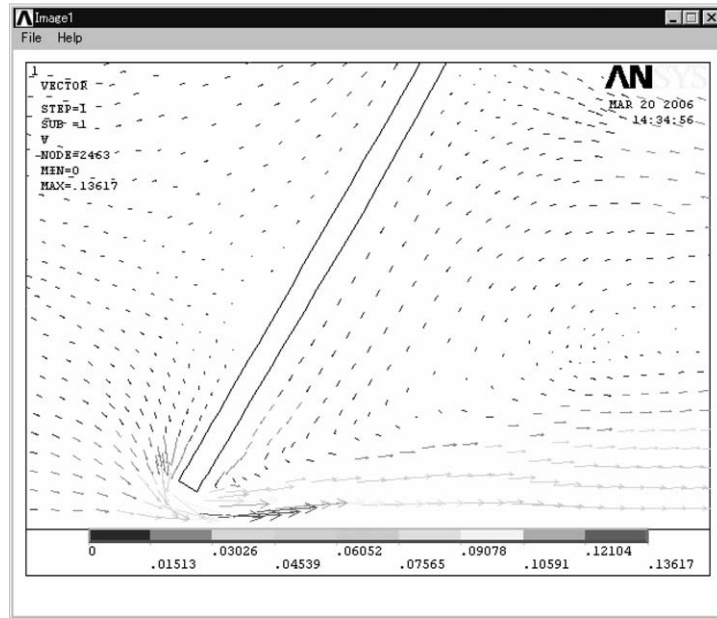
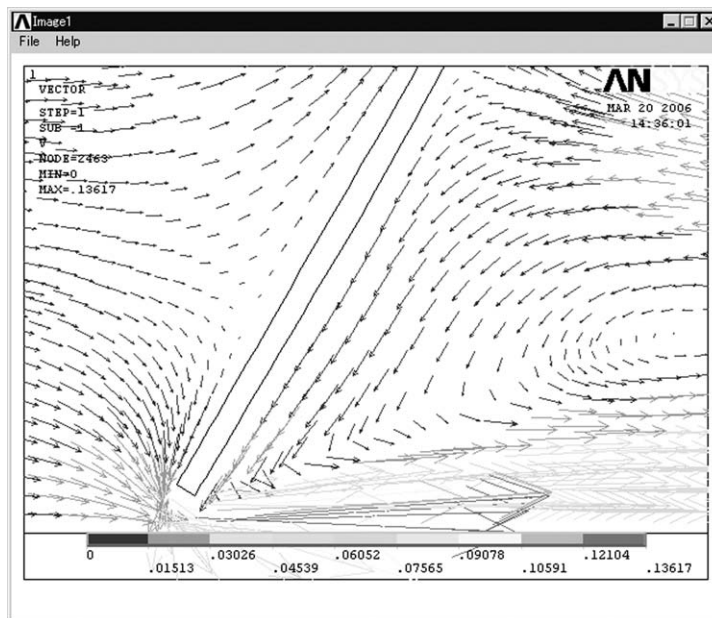

Figure 5.60 Enlarged view near the valve in ANSYS Graphics window.
Figure 5.62 ANSYS Graphics window.
Near separation points in front of or the back of the valve surface, the flow velocity is very small and it is very difficult to distinguish the flow directions even if the area near the valve is enlarged as shown in Figure 5.60. Therefore, the size of vector arrows becomes large by the following steps.
- (1) Input [A] **5** to **VRATIO** box. This means that the length of arrows becomes five times larger as long as those in Figure 5.60. Click [B] **OK** button. Then the detailed flow view near the valve is displayed as shown in Figure 5.62.